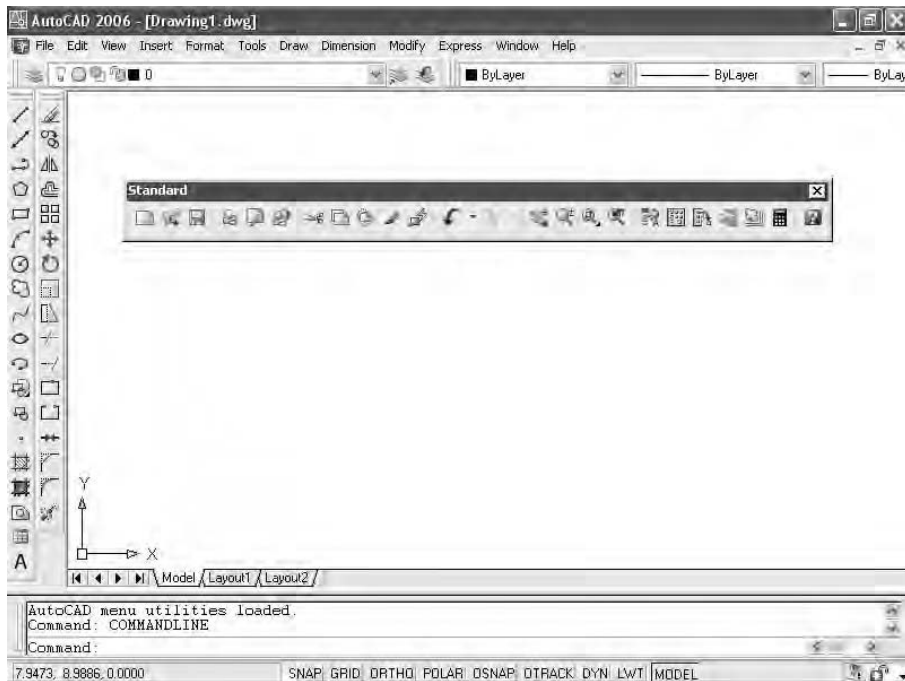

FIGURE 1.8: The Standard toolbar on the drawing area
6. Hold down the left mouse button while the cursor arrow is on the Standard toolbar grab bars, and drag the toolbar onto the drawing area. Release the mouse button. The Standard toolbar now has a title bar, and the space it was occupying at the top of the screen has been filled, making the drawing area a little larger, as you can see in Figure 1.8. The Standard toolbar is now a *floating* toolbar and can be moved around the drawing area.